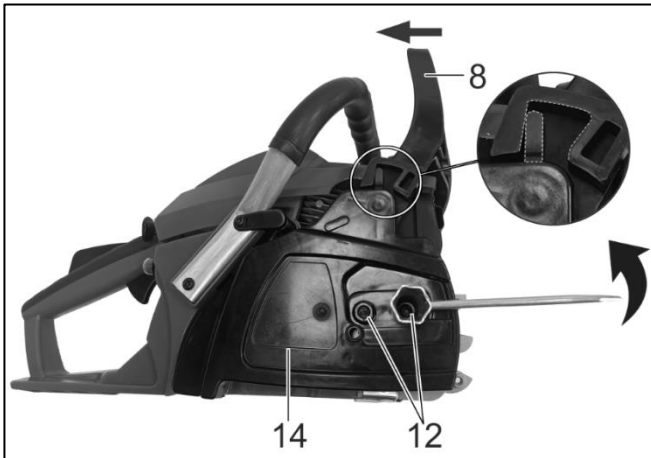
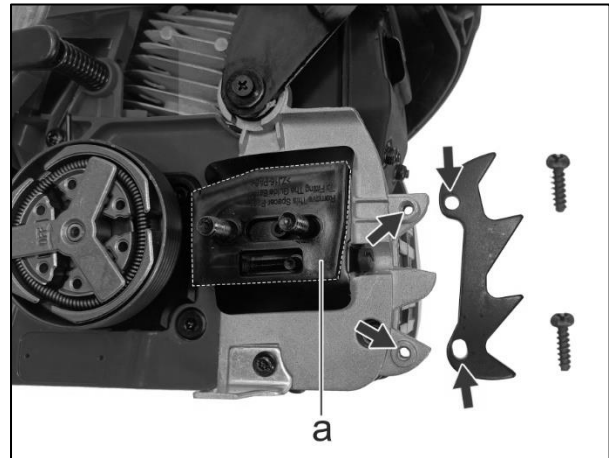

Fig .5
Fig .6
- 1) Pull the brake lever (8) in the direction of the arrow to release the chain brake.
- 2) Use a spark plug wrench to unscrew nuts (12). (Fig .5)
- 3) Pull off the sprocket cover (14).
- 5) Put the spiked bumper in place and secure with two screws. (Fig .6)